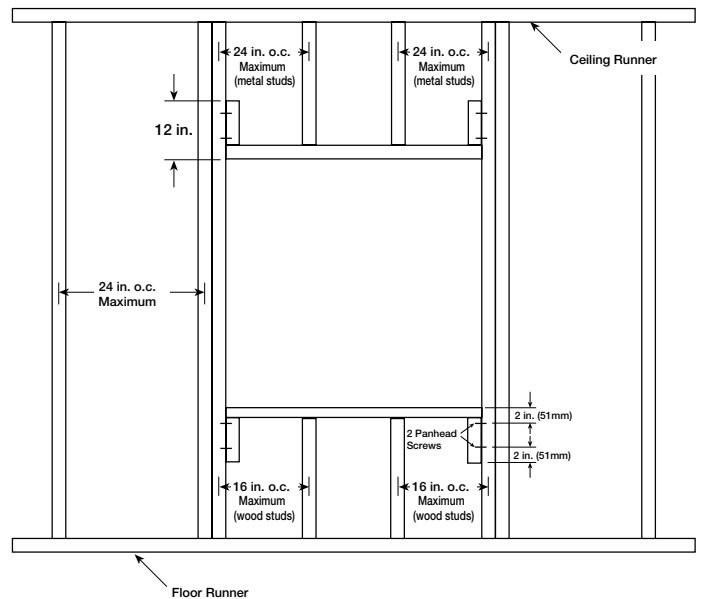

Figure 8: Preparation detail for opening in stud wall.
- Frame wall openings as shown in **Figure 8**.